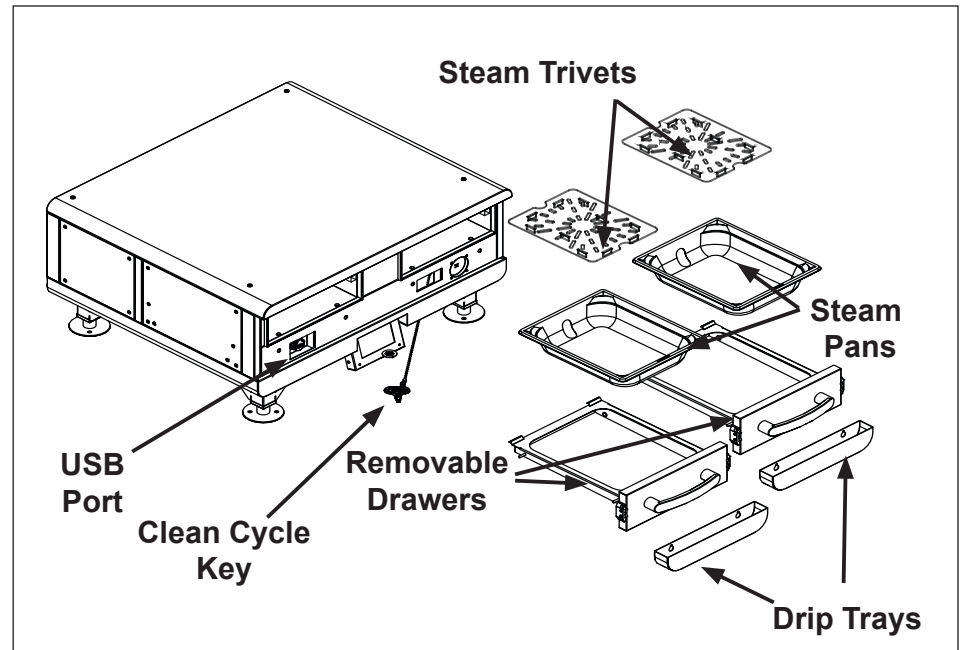

Figure 13. Steamer Components
Open the drawers and remove the steam pans and steam trivets (Figure 13).
1. Remove the drip trays (Figure 13).
3. Remove the right Drip Tray (Figure 13).